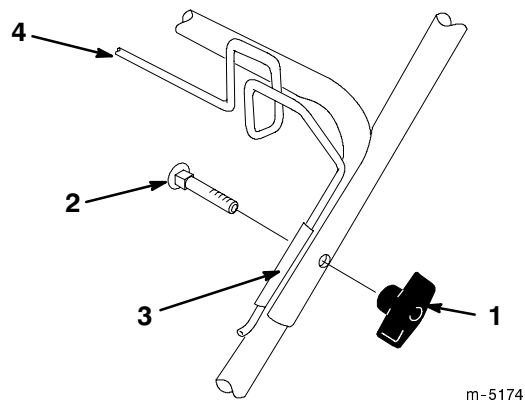

Figure 49
1. Remove the knob and bolt that secure the left side of the upper and lower handle sections (Fig. 49).
2. Hold a hanger clamp on the inside of one of the handle sides, and insert a bolt from the inside of the handle sections through the holes in the hanger clamp (Fig. 49).